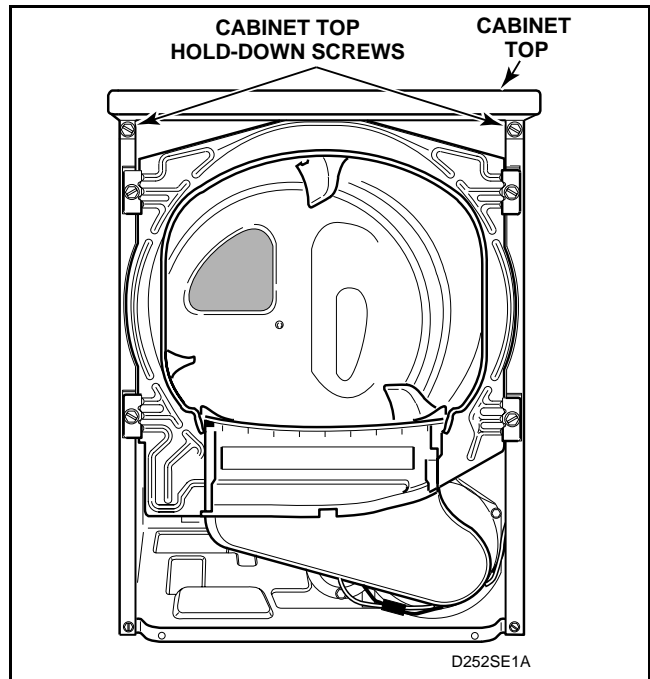

Figure 29
- Remove two screws holding cabinet top to front flange of cabinet. See *Figure 29*.